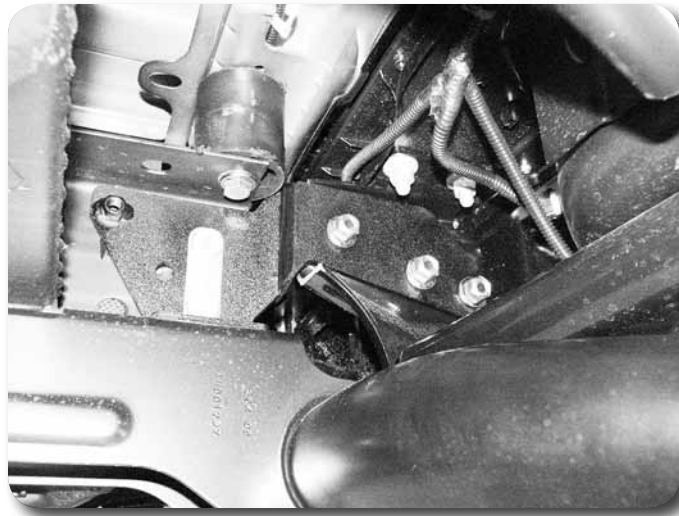

Figure 36
16. Install the modified rear bumper in the vehicle **Figure 36** with all of the original frame mount hardware (4 bolts per side). Leave hardware loose.